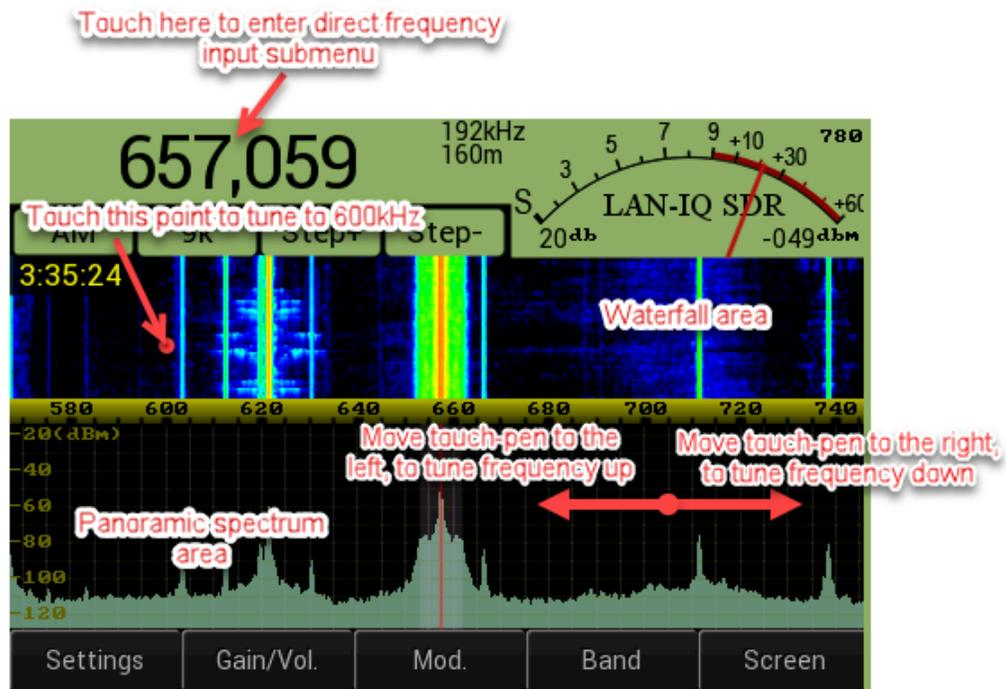
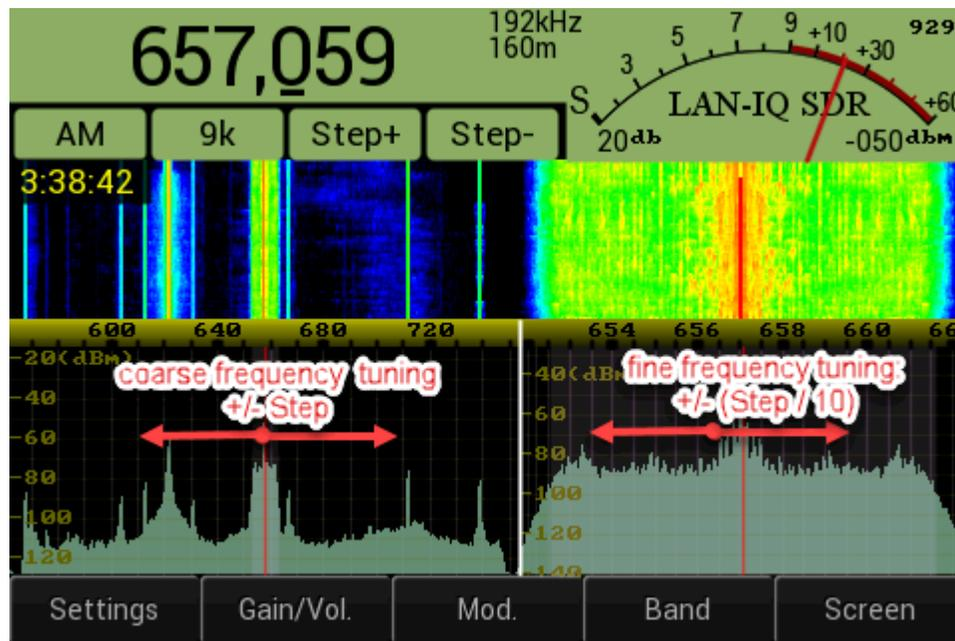

Figure 7-1 Touch pen frequency tuning (BB spectrum)
Figure 7-2 Touch pen frequency tuning (BB/IF spectrum)
- Touch-pen moving in Panoramic Spectrum area left move increase LO frequency, right move decrease LO frequency, see (Figure 7-1, Figure 7-2)
- Touch-pen touching on waterfall area, will immediately tune LO frequency to defined by pointer horizontal coordinate, see (Figure 7-1)